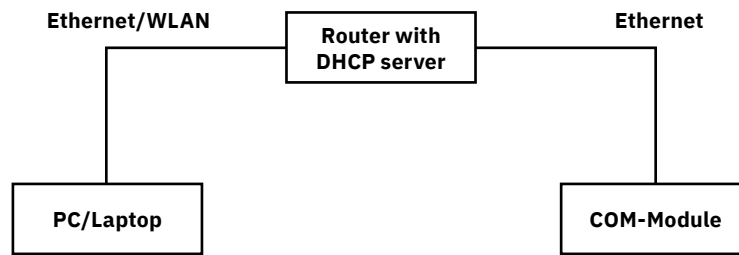

Figure 12: Establishing a Web UI connection via a router with DHCP server
- The schematic setup is shown in *Figure 12*.